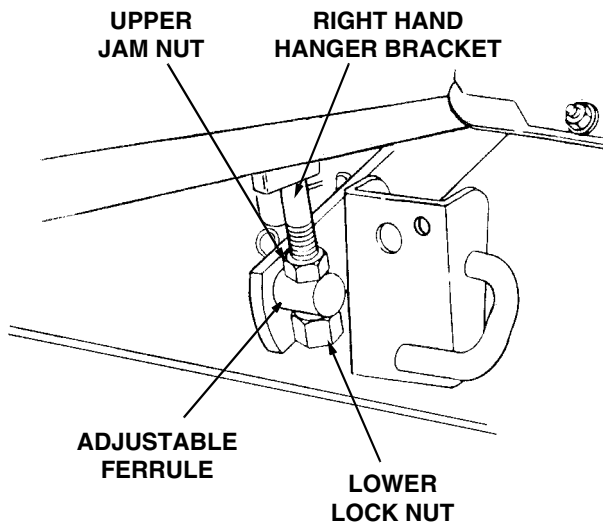

Figure 31
8. Side-to-side leveling is obtained utilizing the adjustment ferrule and right hand hanger bracket (Refer to Figure 31).
9. Loosen the upper jam nut on the hanger bracket and turn away from the adjustment ferrule. Turn the lower lock nut upward (tighten) on the threads of the hanger bracket to raise the right side of the mower deck. Turn the lock nut down (loosen) on the threads to lower the right side of the mower deck (Refer to Figure 31).